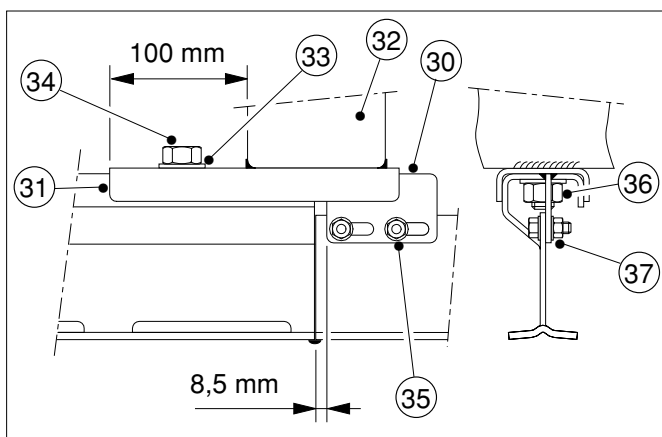

fig.15.1
- welding the connecting profile to the beam. Make sure that the distance between the edge of the connecting profile and the outside of the beam is 100 mm. See figure 15.1.
See figure 15.1.